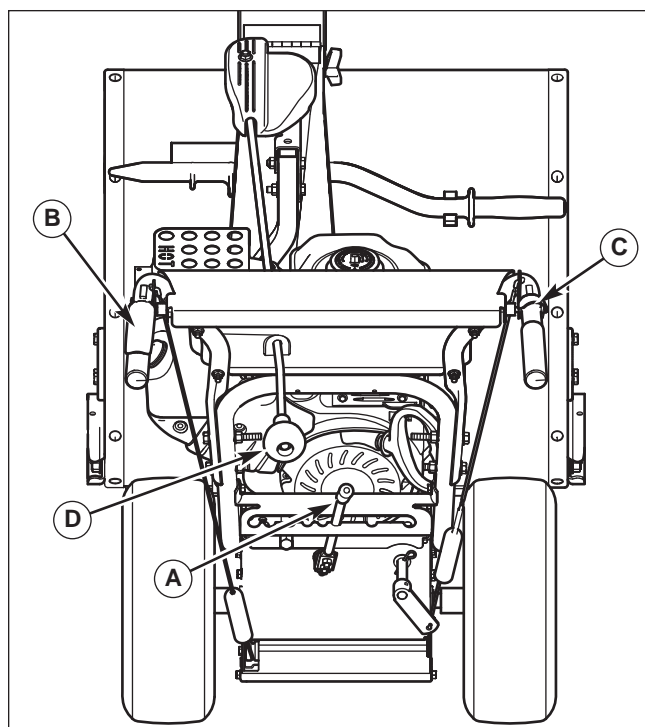

**Figure 7. Stopping the Engine**
1. Move the stop switch (A, Figure 7) to the stop position.
2. Remove the safety key (B). Keep the safety key out of reach of children.